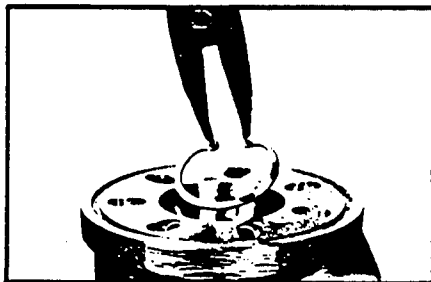

Figure 27
21. If the outer bearing is to be removed, remove retaining ring (18) using the appropriate retaining ring pliers. SEE FIGURE 27. A damaged or deformed retaining ring should be replaced.